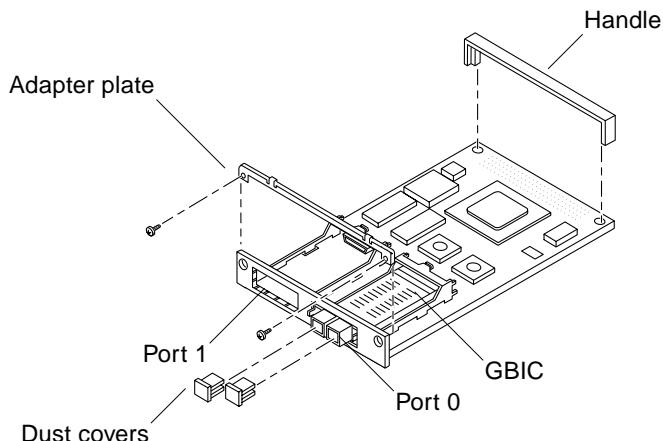

FIGURE 1-1 Sun StorEdge SBus FC-100 Host Adapter
- 1. Pull the two dust covers out of the gigabit interface converter (GBIC) connectors (FIGURE 1-1).**
- 3. If necessary, remove the adapter plate by removing the two Phillips screws shown in FIGURE 1-1.**
- 1. Unwrap the GBIC and pull out the dust covers (FIGURE 1-1 on page 1-3).**